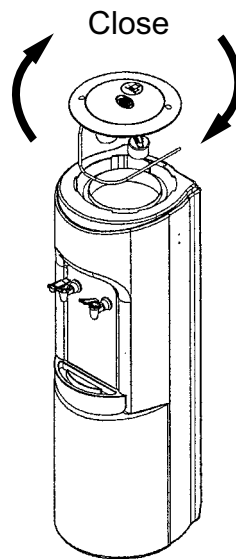

Figure 2.
6. Install the POU kit on the CC Basic™ unit (Figure 2).